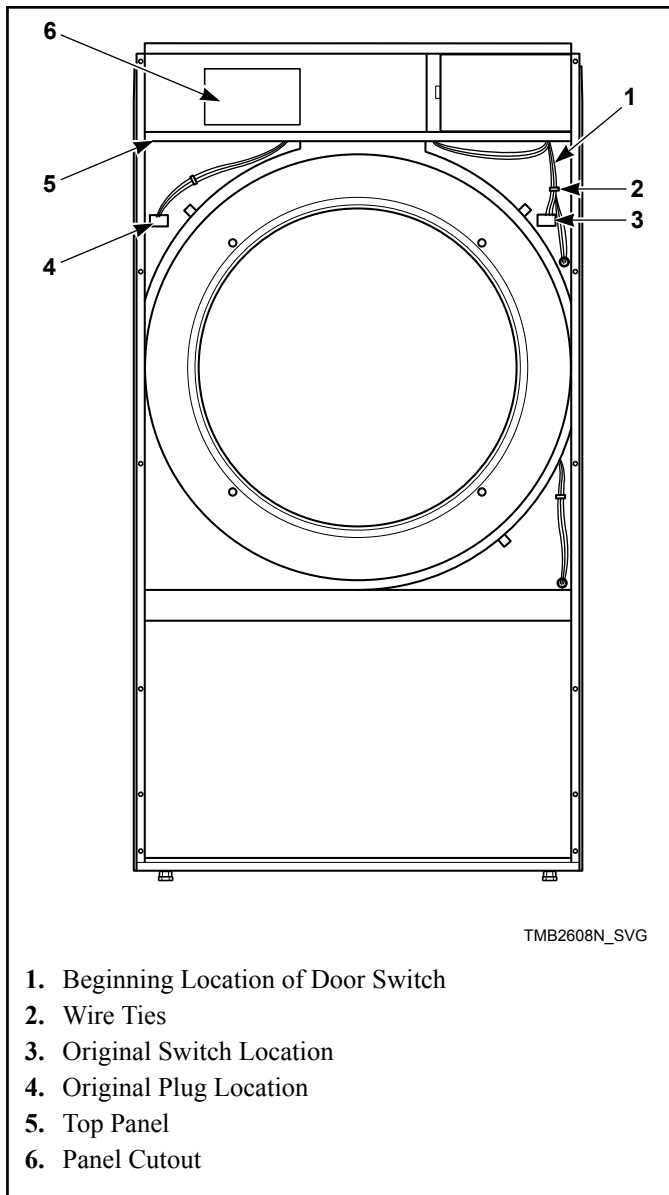

Figure 10
7. Cut wire ties to remove door switch harness bundle. Be careful not to damage harness wires. Refer to *Figure 10* .